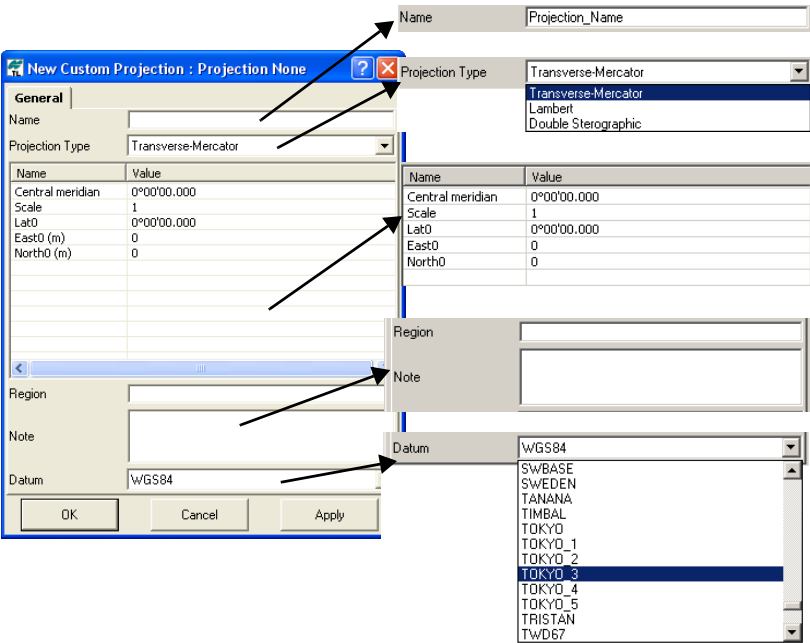

Figure 3-8. Enter Custom Projection Parameters
3. In the *New Custom Projection* dialog box, enter the following information for the new projection (Figure 3-8 on page 3-8):